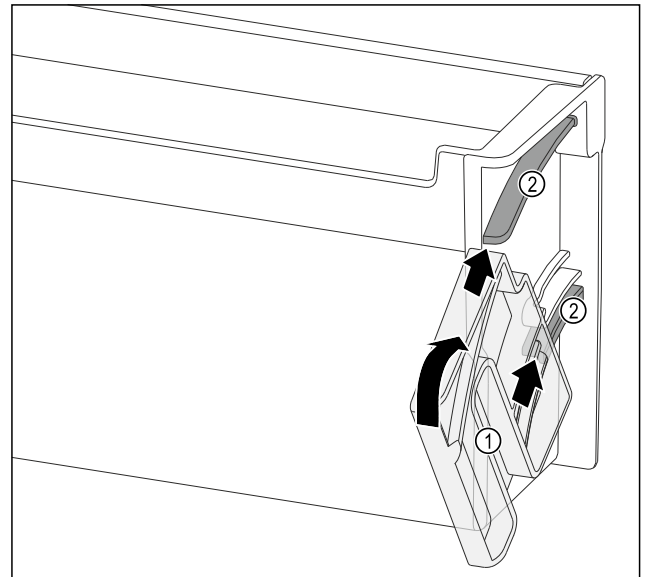

Fig. 146
- ▶ Position the turning unit Fig. 146 (1) so that the recesses are exactly opposite the guide channels Fig. 146 (2) of the door rack.
- ▶ Turn the turning unit Fig. 146 (1) towards the specified direction.